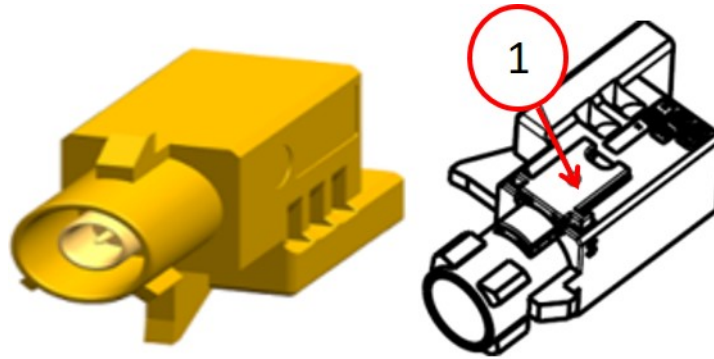

Fig. 4
5. Working with the Y341A (Yellow Connector) wire and using a prying tool, remove the purple connector lock (Fig. 4) .